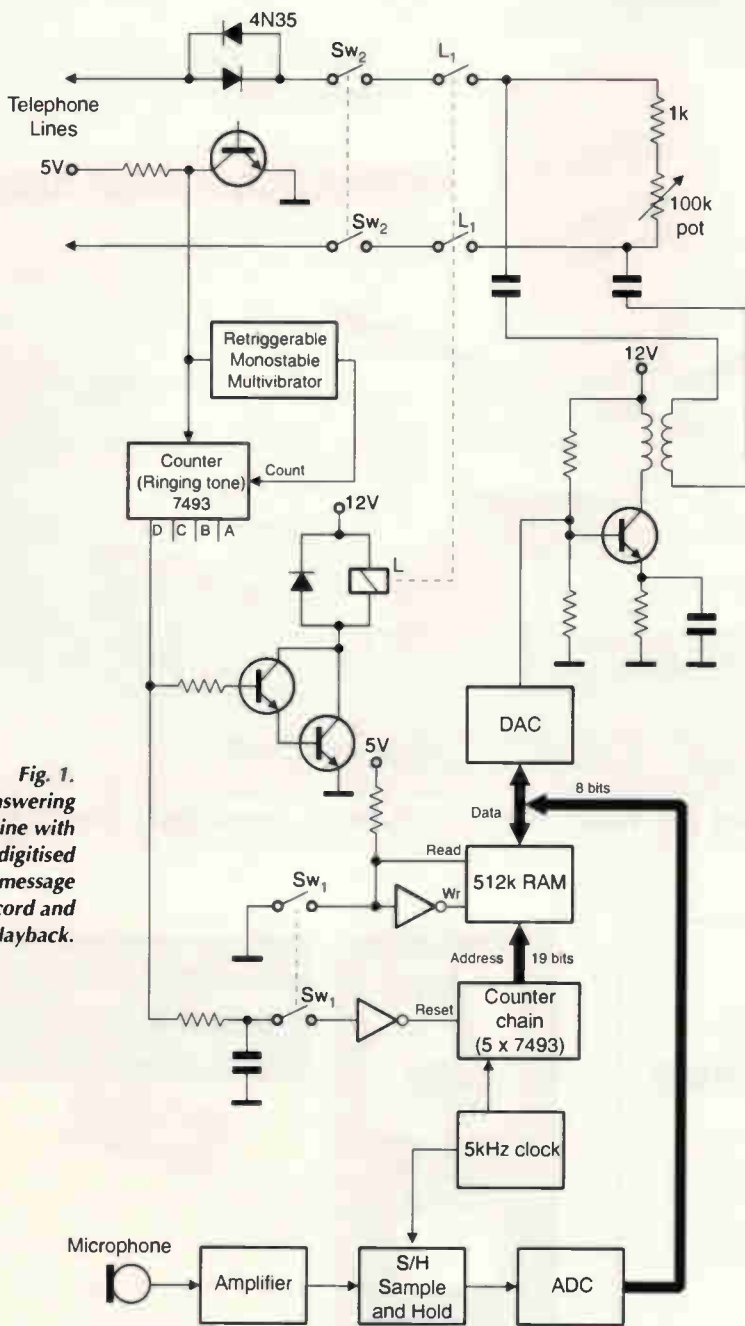

Fig. 1. Answering machine with digitised message record and playback.
Referring to Fig. 1, an optocoupler connected to one arm of the incoming telephone line cable produces impulses when ringing tone arrives from the exchange. When eight pulses are counted, the most significant bit (D) of the counter becomes 'P'. This operates the relay 'L' which closes the contacts  $L_1$  to connect the telephone lines to a passive circuit (resistances).